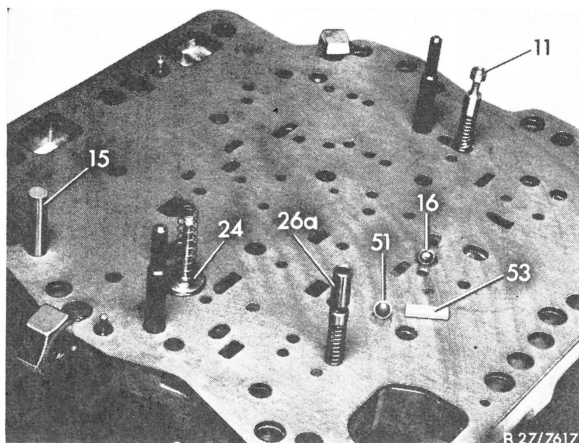

Fig. 5
**7** Remove plastic pin (53), piston brake shift (15) and check valve primary pump including spring. Remove filler piece (26a) and shift pin 3-4 (11) together with springs (Fig. 5).
**8** Remove the two balls of 5.5 mm dia. (16 and 51) (Fig. 5).